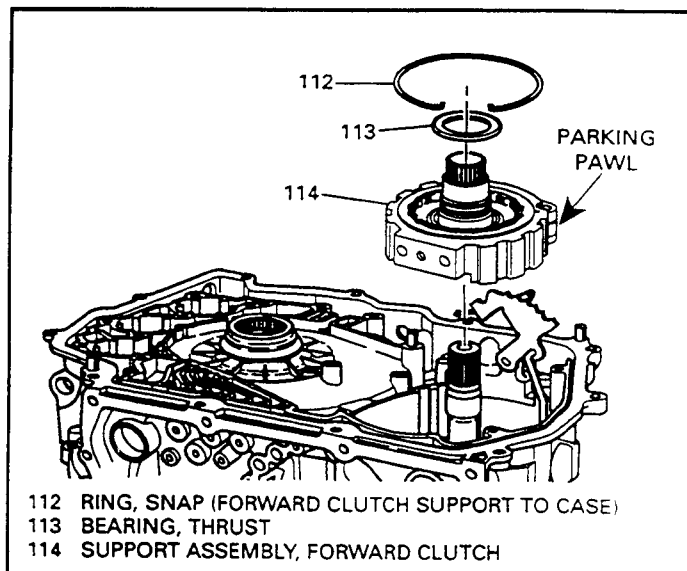

Figure 78
78. Remove the forward clutch support and the Lo roller clutch assembly as shown in Figure 78. Keep the thrust bearing (113) with support. The parking pawl may need to be depressed to allow forward clutch support to be removed. (See Figure 78).